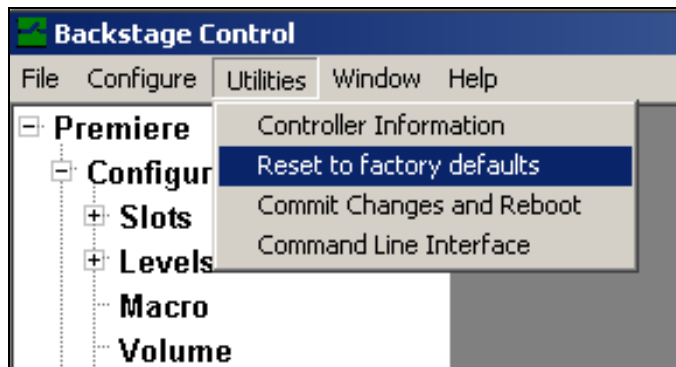

FIGURE 100: Accessing the **Reset to factory defaults** Screen
1. Access the Reset to factory defaults screen (see Figure 100) by clicking on **Utilities** in the main menu bar.